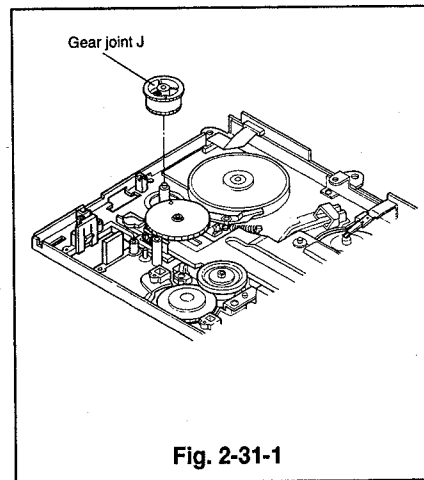

Fig. 2-31-1
- ① Remove the reel belt. (Refer to Para. 2-28 for the removal method.)
- ② Remove the loading motor assembly (which holds the motor holder). (Refer to Para. 2-29 for the removal method.)
- ③ Raise the gear joint J upward to remove it. (Refer to Fig. 2-31-1)